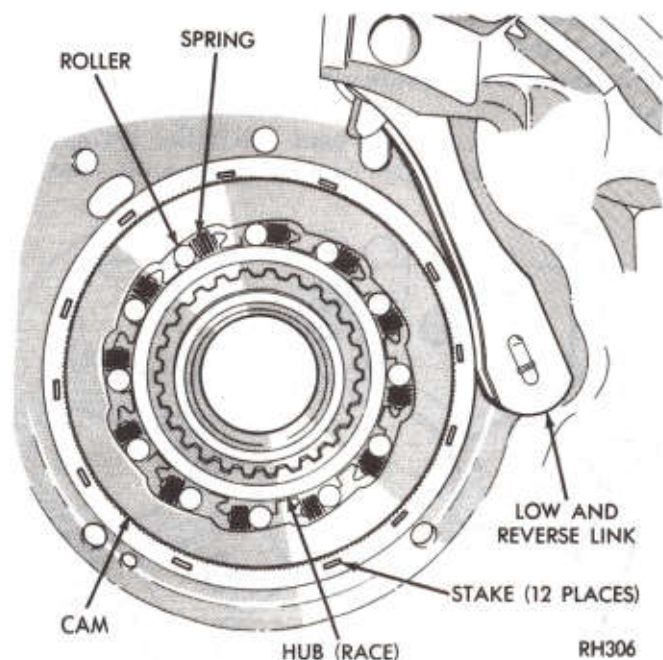
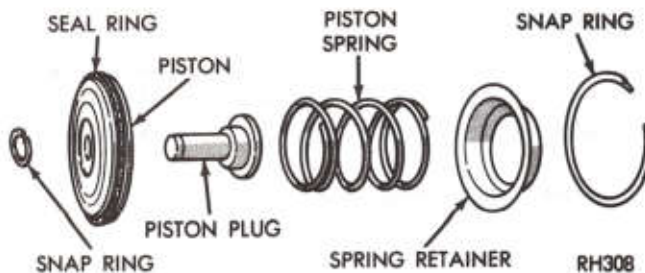

Fig. 42—Overrunning Clutch, Low-Reverse Band Link
Fig. 44—Low-Reverse Servo
(7) Remove cam installing tool. Remove pilot studs, install bolts and tighten to 150 in. lbs. (17 N·m). Stake the case around cam in 12 places with a blunt chisel (Fig. 42).
- (1) Remove snap ring from piston and remove the piston plug and cushion spring (Fig. 44).
- (1) With transmission case in an upright position, insert clutch hub inside the cam. Install overrunning clutch rollers and springs as shown in Figure 42.
- (1) Carefully work servo piston assembly into the case with a twisting motion. Place spring retainer, and snap ring over the piston (Fig. 44).
- (2) Compress low-reverse servo piston spring by using engine valve spring compressor Tool C-3422A, then install snap ring.
- (3) Position rear band in the case, install short strut, then connect long link and anchor to the band. Screw in band adjuster just enough to hold strut in place. Install low-reverse drum. Be sure long link and anchor assembly is installed as shown in Figure 42, to provide running clearance for the low-reverse drum.